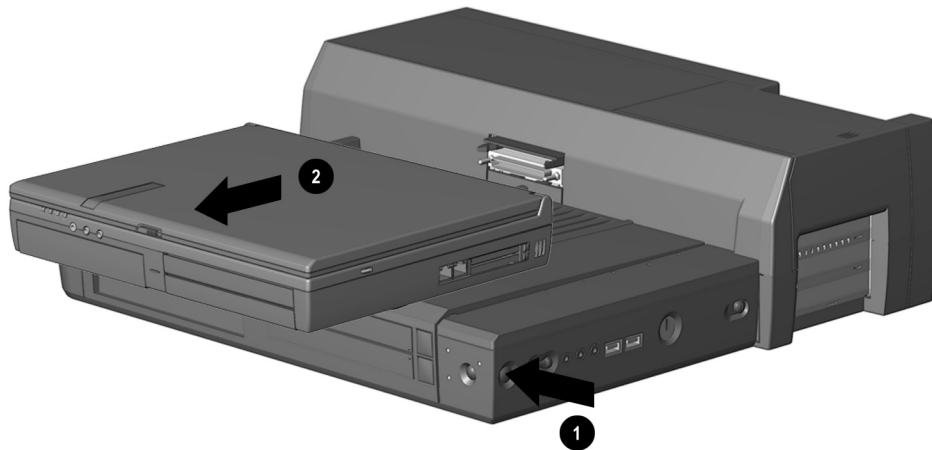

Figure 5-3. Undocking the Computer from the Compaq Expansion Base
4. Press the eject button **1**. The computer separates from the docking connector on the Compaq Expansion Base **2** (Figure 5-3).